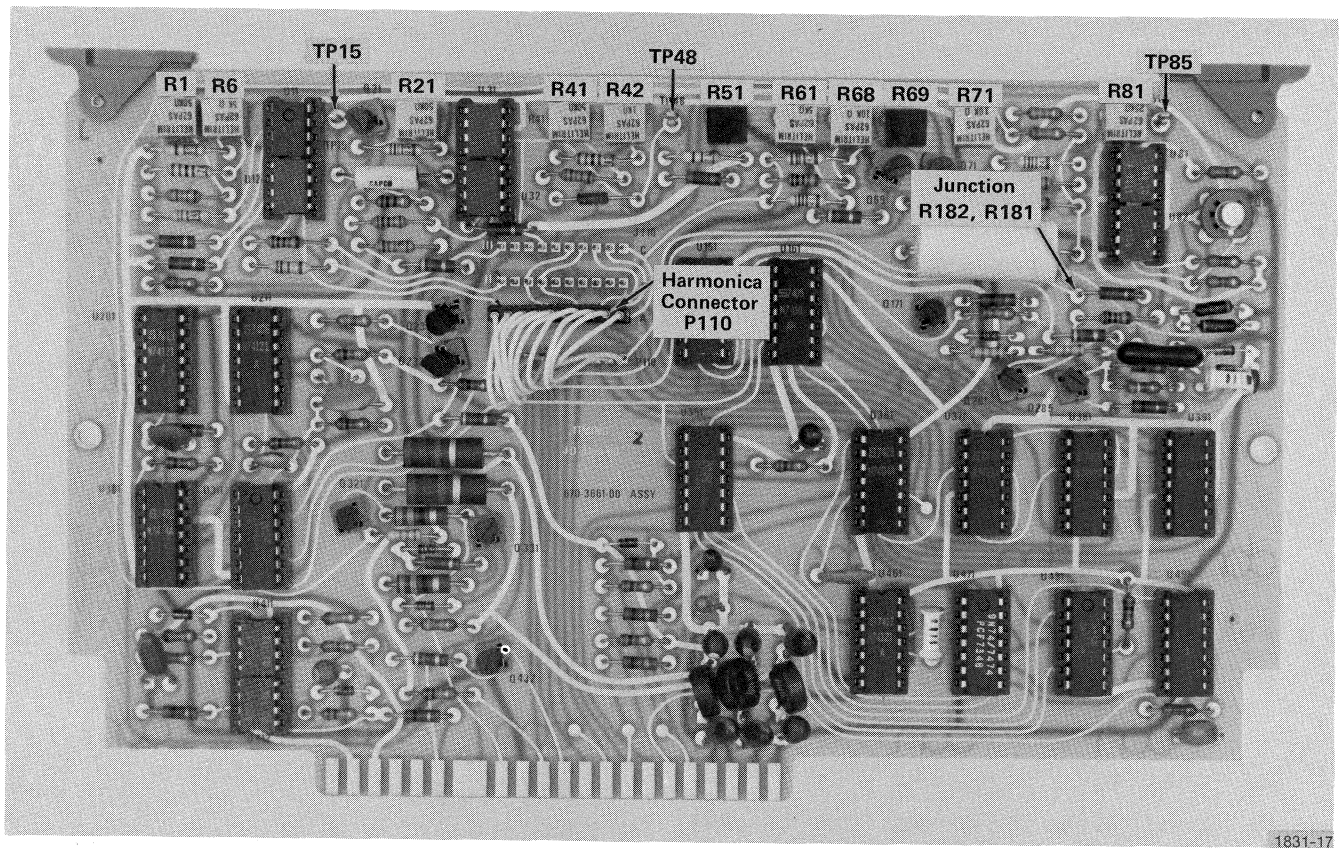
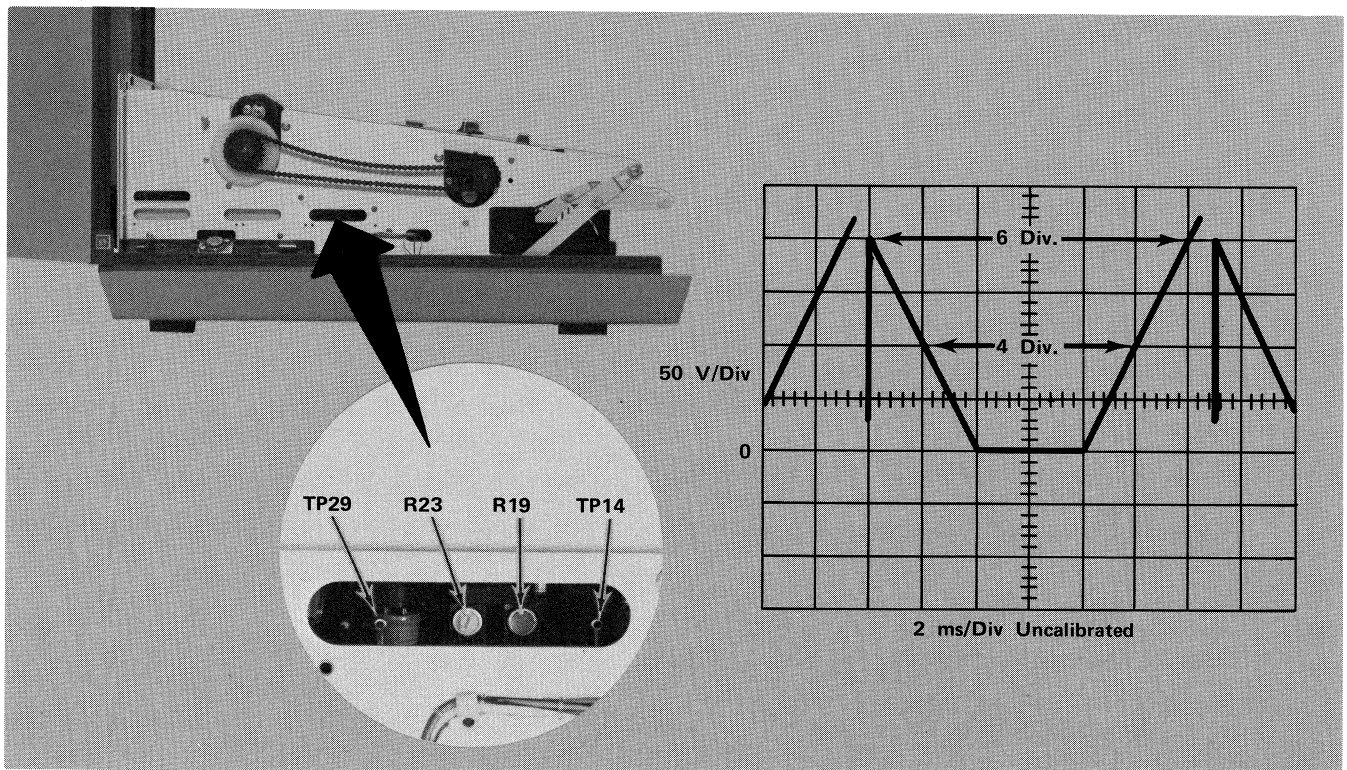
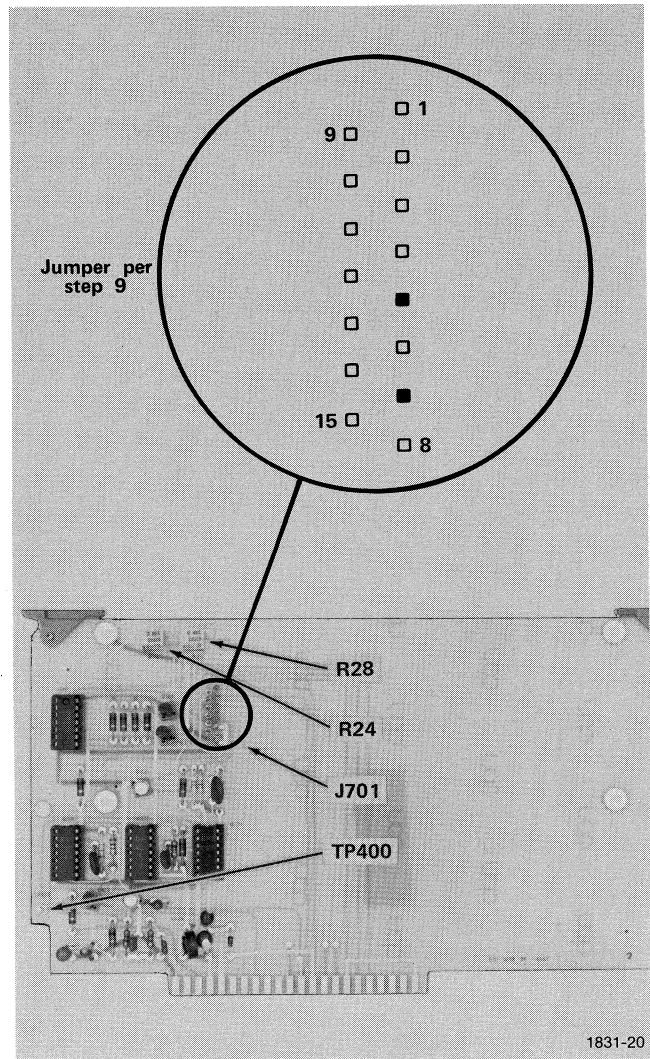

Fig. 4-7. Timing board adjustments.
Fig. 4-8. Test point, adjustments and (idealized) waveform for Dynamic Focus adjustment.
Fig. 4-9. Interrogate test point and adjustment locations.
- (2) Put the harmonica connector on the Timing board (Fig. 4-7) in position I.
- (3) Press COPY.
- (5) Move the harmonica connector on the Timing board (Fig. 4-7) to position III.
- (6) Press COPY.
- (7) ADJUST R51 on the Timing board (Fig. 4-7) for a square wave with a period of 7.2 milliseconds.
- (8) Move the harmonica connector back to position I.
- (1) Refer to Fig. 4-8. Connect a 10X probe from the oscilloscope to TP14 on the Main board. Connect a 1X probe from the external trigger input on the oscilloscope to the R181-R182 junction on the Timing Board (Fig. 4-7). Set the oscilloscope to external trigger.
- (2) ADJUST R23 (width) and R19 (amplitude), for a waveform similar to the idealized waveform as shown in Fig. 4-8.
- (3) Press COPY. CHECK Hard Copy Unit display. Readjust R19 for best focus on edge of crt.
- (1) Refer to Fig. 4-9. Connect a 10X probe from the oscilloscope to TP400 on the Interrogate Board. Set the oscilloscope for 0.5 ms/div and 0.1 V/div.
- (2) Press COPY.
- a. ADJUST Fast Ramp (Fig. 4-7).
- (1) Connect a 10X probe from the test oscilloscope to TP 15 on the Timing board. Set the oscilloscope to 500 μ s/div.
- (3) ADJUST R21 for a 2.8 ms ramp. (This is only the time the ramp is running. It does not include the time between ramps.)
- (4) Connect a 10X probe from the differential amplifier of the oscilloscope to TP 48. The oscilloscope is a Tektronix 7603 with the 7A13 plug-in unit. Set the oscilloscope as follows: vertical sensitivity = 50 mV/div., - input = V_c , + input = D_c , comparison voltage = +5 V.
- (5) ADJUST R41 for a reading of +5 V \pm 50 mV.
- (6) Switch the comparison voltage to -5 V.
- (7) Press COPY.
- (8) ADJUST R42 for a reading at the bottom of the ramp equal to -5 V \pm 50 mV.
- (9) Refer to Fig. 4-8. Place a shorting strap between pins 5 and 7 of J701. Insert a paper cassette in the cassette holder.
- (10) Press COPY. A copy with a completely dark background should result. It should be a black rectangle 22.5 cm by 17 cm (refer to Table 2-2 Format A).
- (11) Refer to Fig. 4-7. If the 17 cm measurement is incorrect, ADJUST R6 (while making copies) until the short measurement is 17 cm.
- (12) ADJUST R1 until the black rectangle is centered in the short axis of the copy.
- (13) Move the harmonica connector (P110) to position II.
- (14) Press COPY.
- (15) CHECK—the short axis of the copy should be 13.7 cm (refer to Table 2-2 Format B).
- (16) CHECK—the long axis should be 18 cm.
- (17) Remove the short from between pins 5 and 7 of J701 (Fig. 4-9).
a. ADJUST Slow Ramp Position (Fig. 4-7).
- (1) Move the test oscilloscope probe from TP48 on the Timing board to TP85.